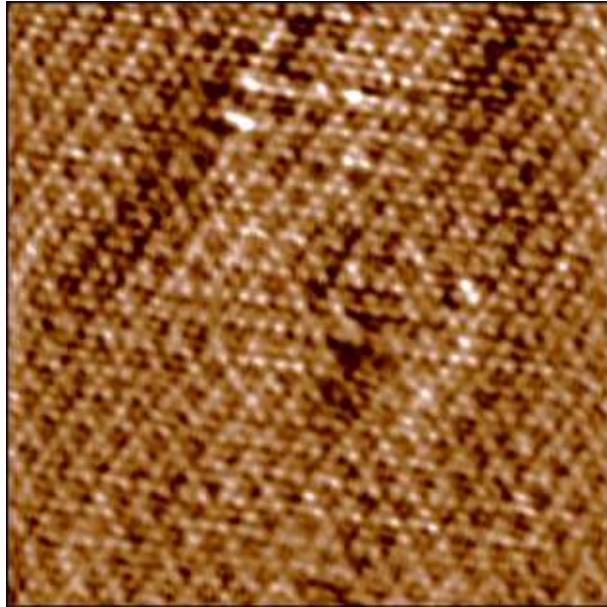
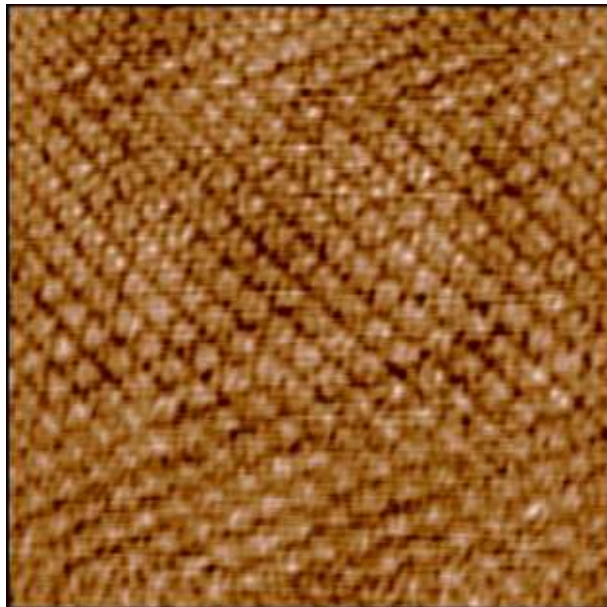

Figure 8.12 Close-up of the extracellular surface of the membrane patch, revealing the bacteriorhodopsin trimers, 100nm scan size
Figure 8.13 Close-up of the cytoplasmic surface of the membrane patch, revealing the bacteriorhodopsin trimers, 100nm scan size
7. Continue to zoom in to capture a 100nm scan (Figure 8.12 and Figure 8.13.) The trimer structure of the cytoplasmic face as seen in Figure 8.13 is consistent with previous data published where the applied force is low, typically under 200pN.